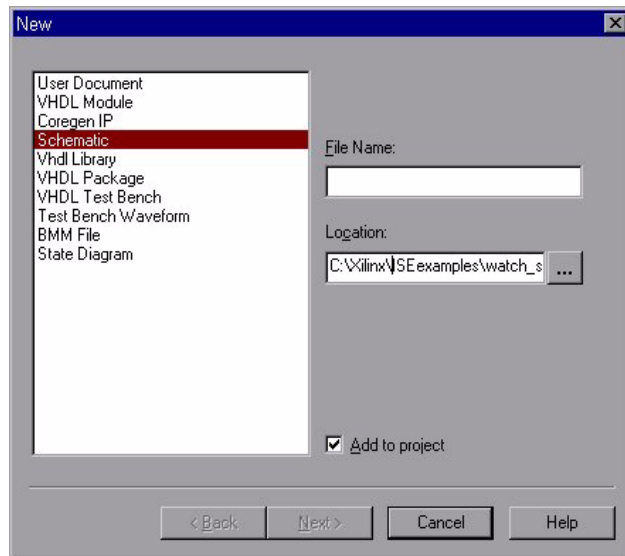

Figure 2-6 New Source Dialog Box
1. Select **Project** → **New Source** in the Project Navigator. The New Source dialog opens (see Figure 2-6).